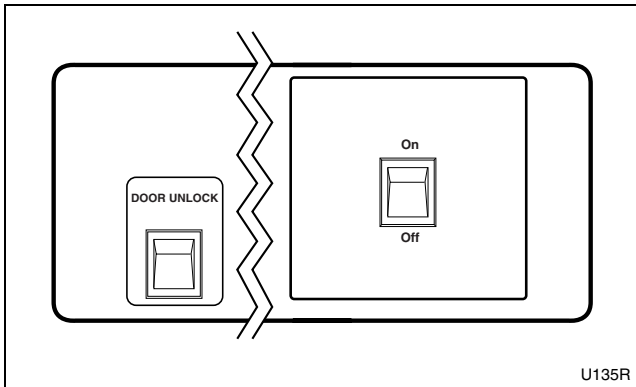

Figure 25
*For non-coin models:* Press and hold the DOOR UNLOCK button on the left side of the control panel while performing the above step. Refer to *Figure 25*.